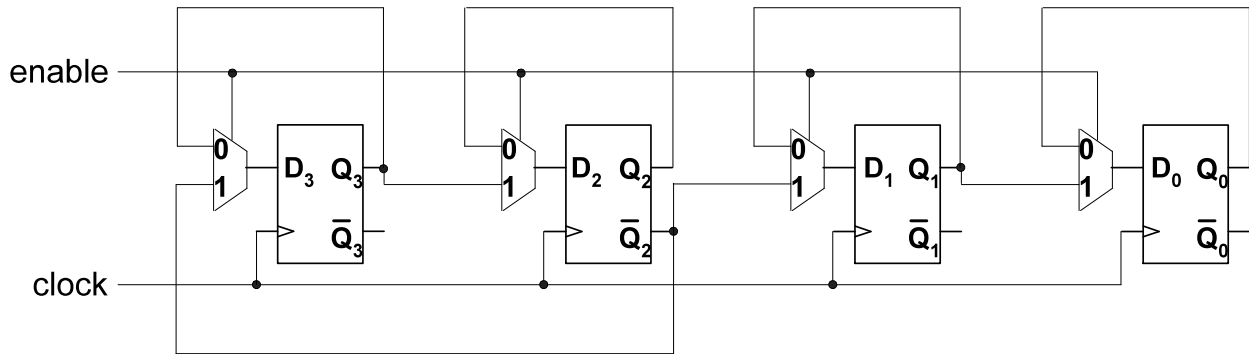

Figure 6 - Circuit for question 11.
11. In Figure 6, if enable=1 and the current (or present) state is $Q_3Q_2Q_1Q_0=0101$, then the next state will be: